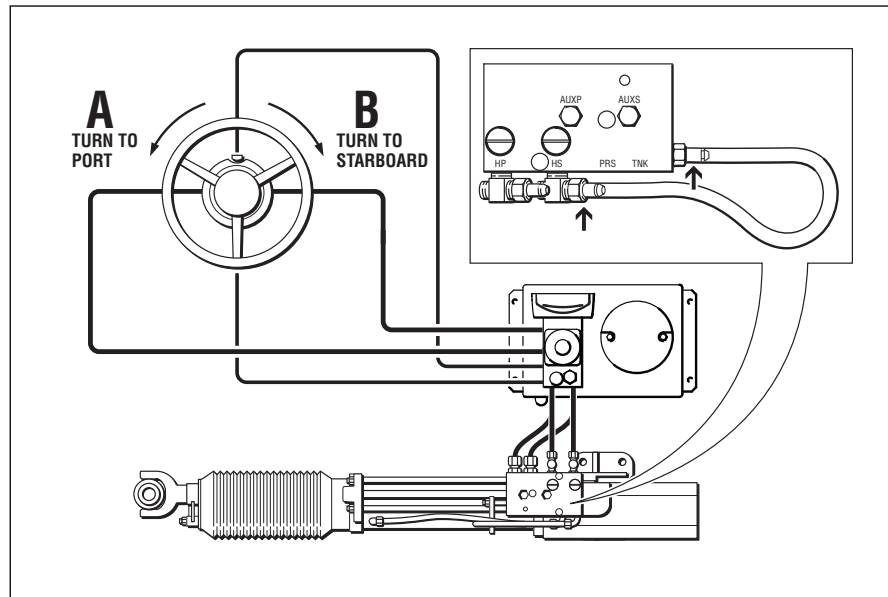

Figure 14.
- 10 Close the cylinder bleed fittings. Remove the bleeder tube from the HP bleeder tee and connect it to the HS bleeder tee on the cylinder (Refer to Figure 14). Open bleed fittings 1/4 – 1/2 turn.